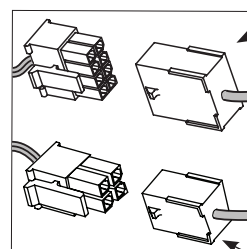

Fig. 6D
3. Connect ElectroLynx 4- and 8-pin connectors from the door harness to (black) 4- and 8-pin connectors of the SE LP10 harness (Fig. 6D).
6. Connect ElectroLynx 4- and 8-pin connectors from the door harness to (black) 4- and 8-pin connectors of the SE LP10 harness (Fig. 6D in previous step).